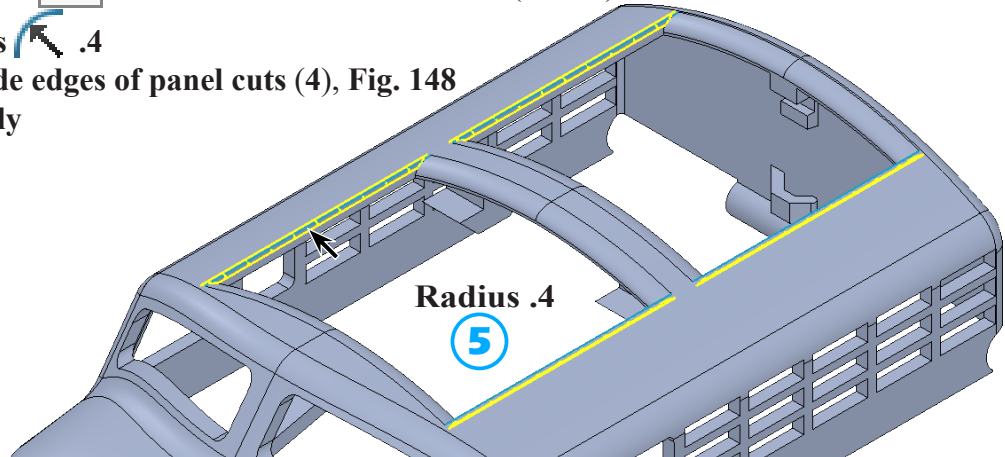

Fig. 148
- ⑤ **Radius**  .4
click side edges of panel cuts (4), Fig. 148